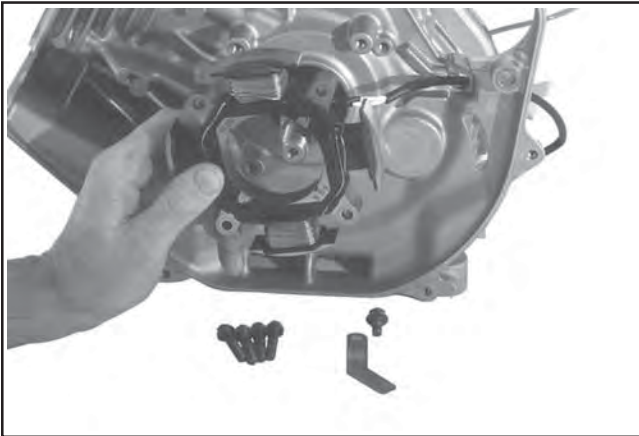

Figure 9-53. Removing Mounting Screws and Stator.
2. Remove the four hex flange shoulder screws securing the stator to the crankcase. Remove the stator and pull the wires through the opening in the casting. See Figure 9-53.